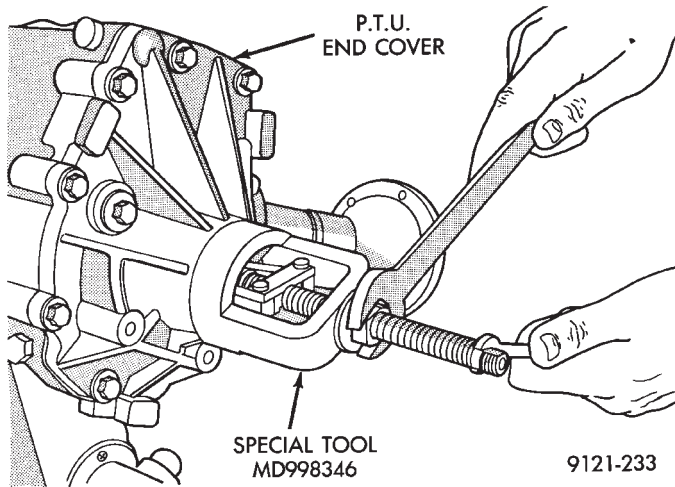

Fig. 5 Bearing Removal
(5) Use bearing puller MD998346 to remove bearing (Fig.5).